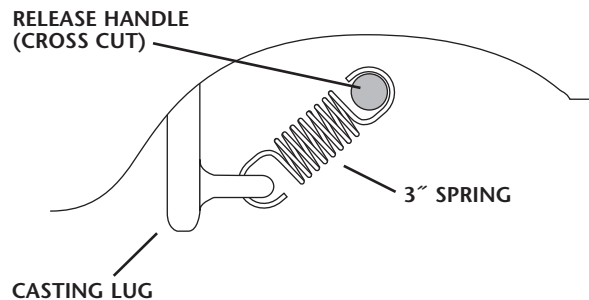

FIGURE 2
3. Insert the "L" bend of the release handle through the right (curb) side handle opening in the rib of the casting, through the other loop of the 3" long release handle spring, then down through the .66 dia. hole in the end of the release arm as shown. (See Figure 2.)